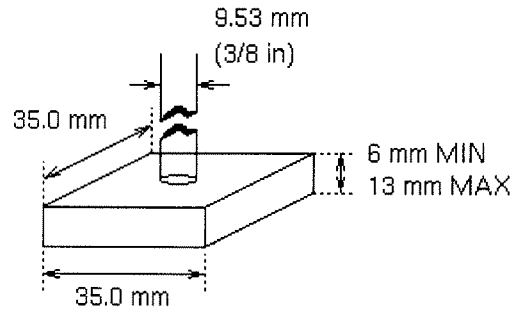

Figure 2. Loading Plate Detail
- The load will be applied from above by means of a 35mm square plate that is 10mm thick. A 9.53 mm diameter loading rod is attached to the center of the plate (**see Figure 2**). The plate will be horizontal, have a flat bottom and will not pivot on the loading rod.